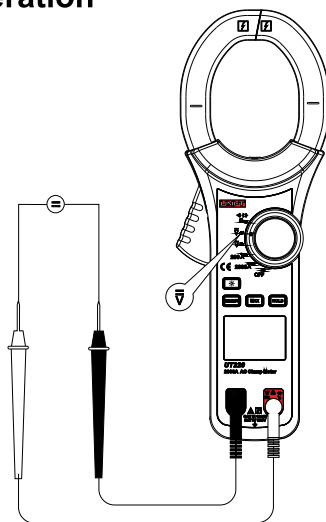

Figure 3
1. DC voltage measurement $\overline{V}$ (See Figure 3)